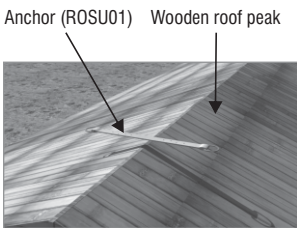

Fig. 1- Wooden roof structure on to which anchor is to be installed
- Place the anchor plate to match the surface it will be mounted on, either a roof peak or flat surface. Ref fig.1